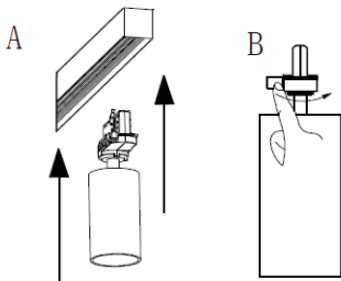

Fig. 2
- Align spotlight with track, making sure correct orientation (A) before inserting into track. Once spotlight fully in, turn securing lever anticlockwise (B) until fully locks and spotlight secure. Note: If lever very stiff or when fully turned spotlight not secure, check orientation or track is compatible. (Fig.2)